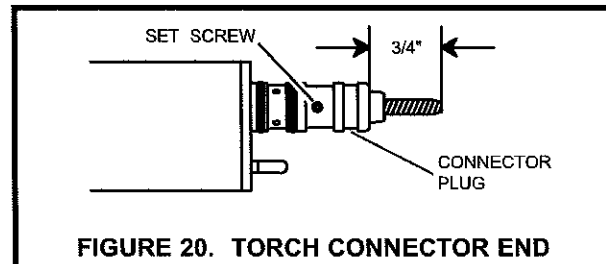

FIGURE 20. TORCH CONNECTOR END
4. Loosen set screw located on the connector end of the torch assembly (see FIG. 20).
5. Tighten set screw. (Do not over-tighten), refer to FIG. 20.